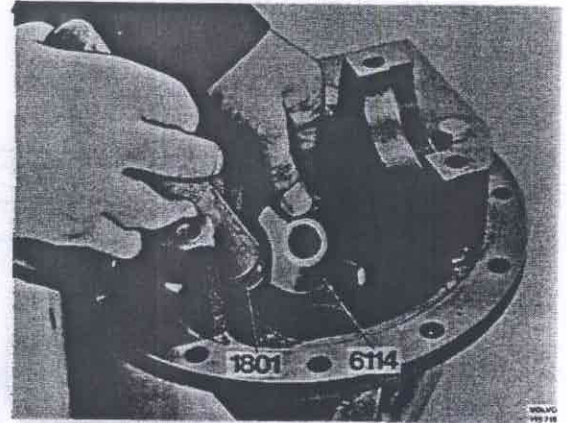

Fig. 46-44. Driving out the seal
10. Turn the carrier. With 6014 + 1801 drive out the flange seal, front bearing and outer race, Fig. 46-44.